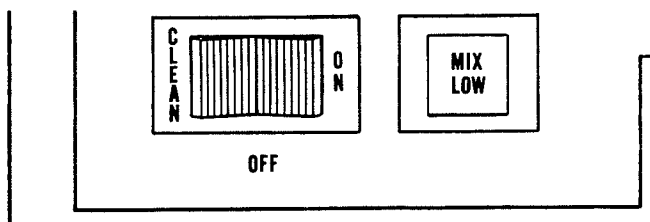

Figure 11. Clean Control
- C. Place the CLEAN-OFF-ON rocker switch in the CLEAN position. Check for leaks around the front door seal (Fig. 11).